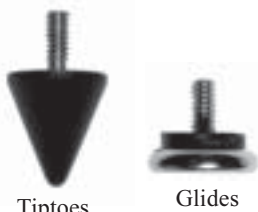

Figure 16
15. Two sets of optional feet (fourteen Tiptoes and fourteen Glides) are supplied with the XRT30 Loudspeaker System. Refer to figure 16. To prevent crushing carpet use the Tiptoe Spikes; to protect non-carpeted flooring use the Chrome Glides. Both the Glides and Tiptoes have a threaded shaft and locking nut that screw into the tapped holes in the bottom of the XRT30's base rails. The feet can be independently adjusted to compensate for uneven flooring. The second set of optional feet are for the Bass Section Cabinet.